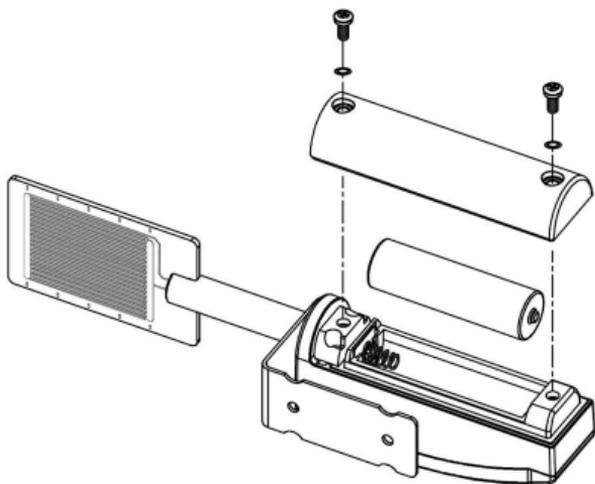

Figure 3: Battery installation
1. Remove the battery door on the back of the transmitter by removing the screws, as shown in Figure 3(**make sure the rubber seal remains intact when installing or removing the battery door**):